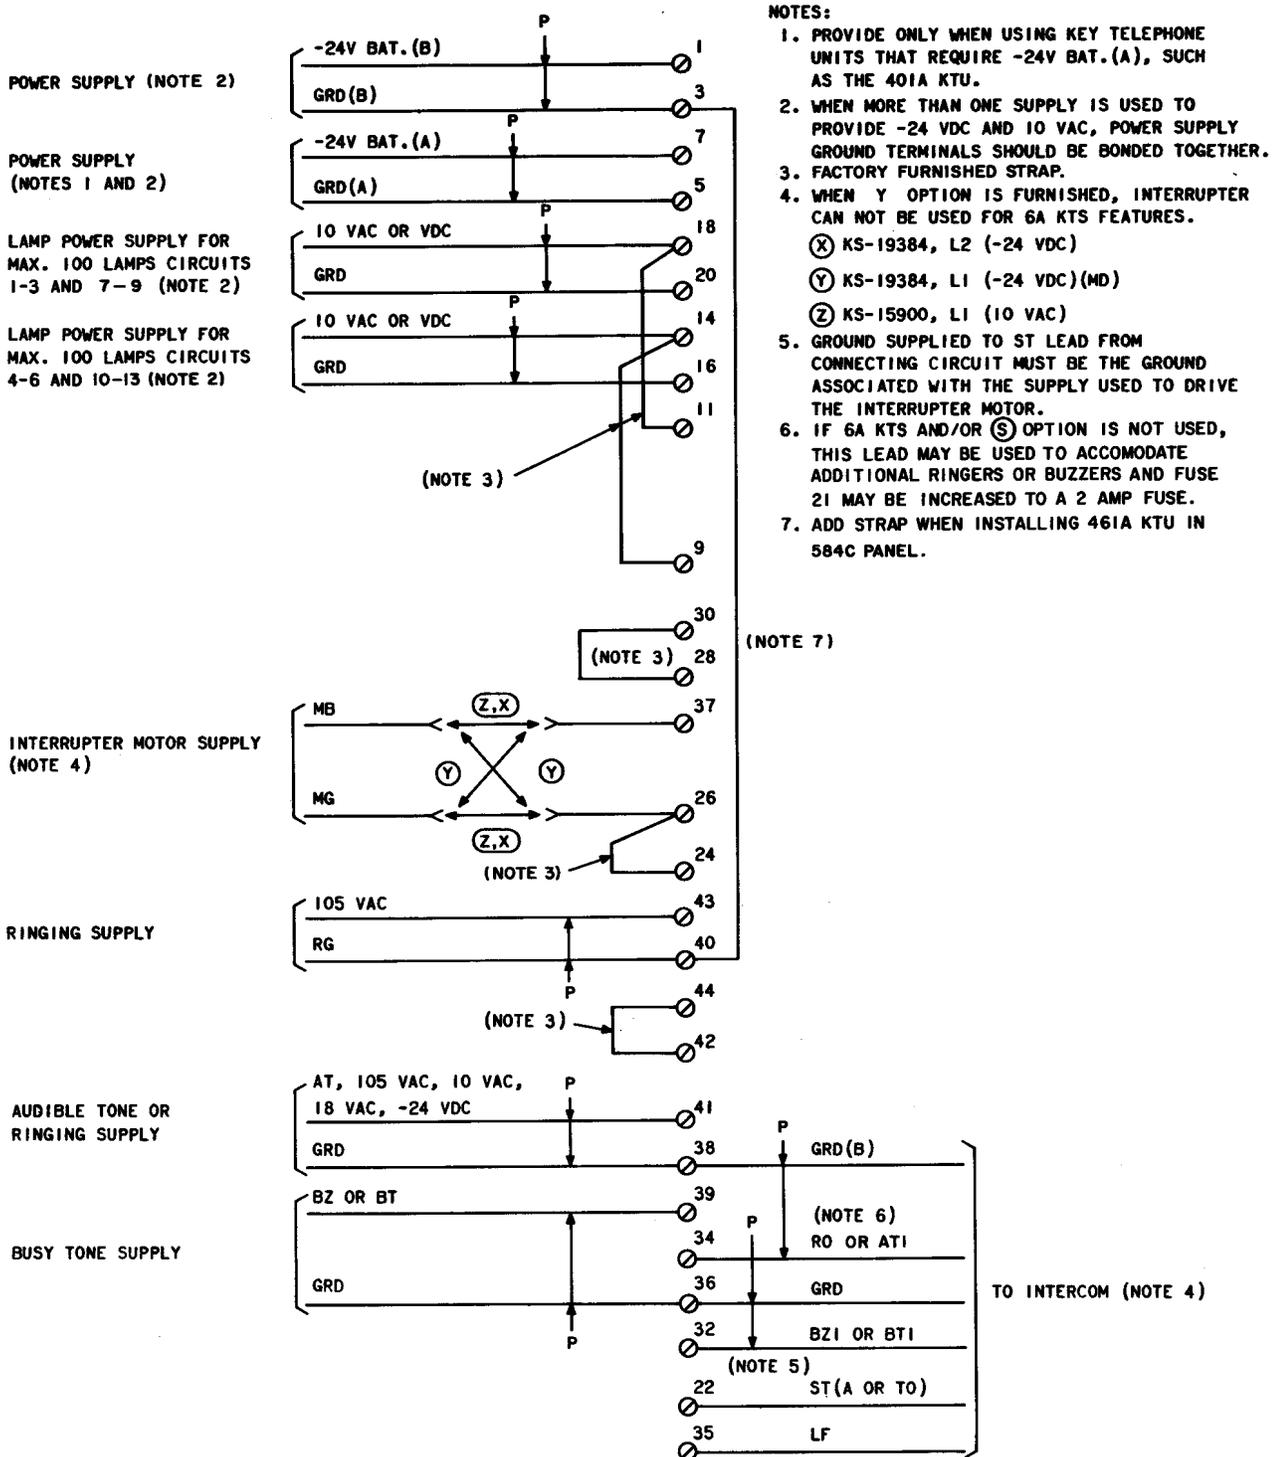

Fig. 10—584C Panel Equipped With Interrupter (Panel not used to control other panels)
- Fig. 10—584C Panel Equipped With Interrupter (Panel not used to control other panels)